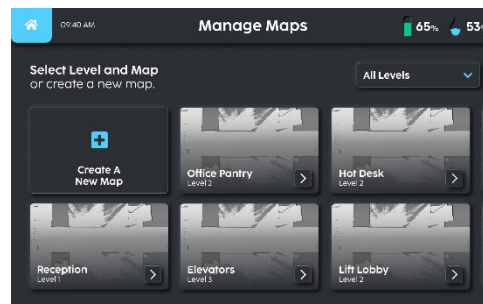

Fig. 2
2. Select the mapped area of operation (Fig 2), wait for the map to change.